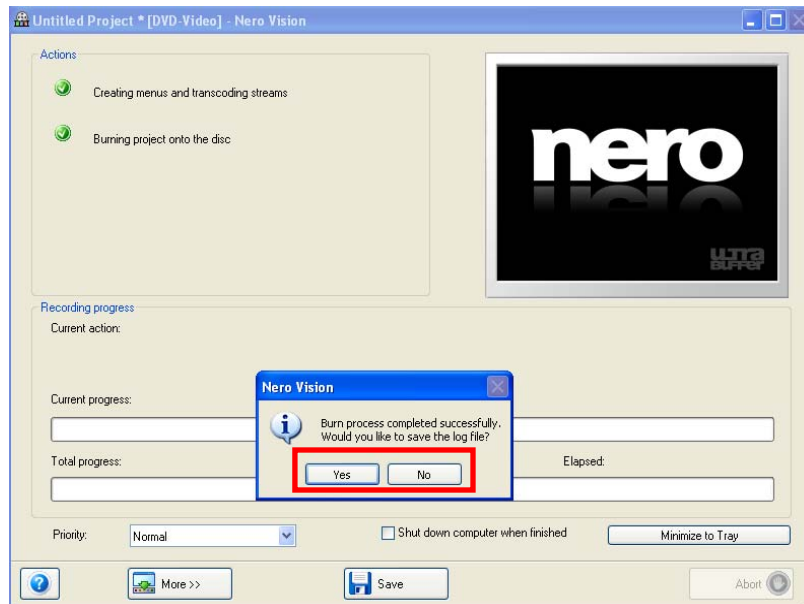

Figure 171. AAR – Burn Complete
11. Once the burn has completed successfully, a window will pop up, and confirm the burn success (Figure 171). Click [YES] to save the log file (for instances when additional DVDs must be burned with the same information) or [NO] to discard the log file.